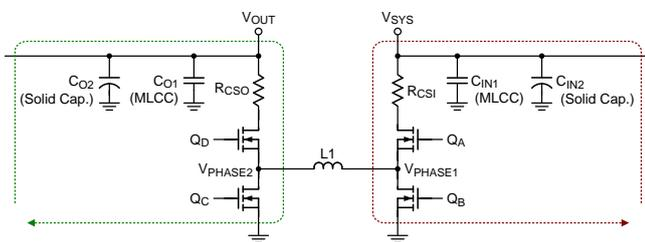

Figure 6. Recommended PCB Layout of the Power Stage
- ▶ Figure 6 is a recommended placement of the PWM Buck-Boost power-stage. Two critical current-loop paths “from  $C_{IN1} \rightarrow R_{CSI} \rightarrow Q_A \rightarrow Q_B$  to  $C_{IN1}$ ” and “from  $C_{O1} \rightarrow R_{CSO} \rightarrow Q_D \rightarrow Q_C$  to  $C_{O1}$ ” must be as short as possible to minimize the switching noise at CSIN/PCIP, PCIN, CSIP, CSON/PCOP, PCON, CSOP, PHASE1, and PHASE2 pins. The short paths also reduce radiated EMI. It’s necessary to use an MLCC ( $10\mu\text{F}/50\text{V}$ , X5R/X7R) for the input capacitor ( $C_{IN1}$ ) and output capacitor ( $C_{O1}$ ). For reducing input and output voltage ripples during heavy load operation, it is recommended to add more MLCCs or solid input and output capacitors. To improve heat dissipation, increase the PCB areas for Drains of high-side and low-side MOSFETs.